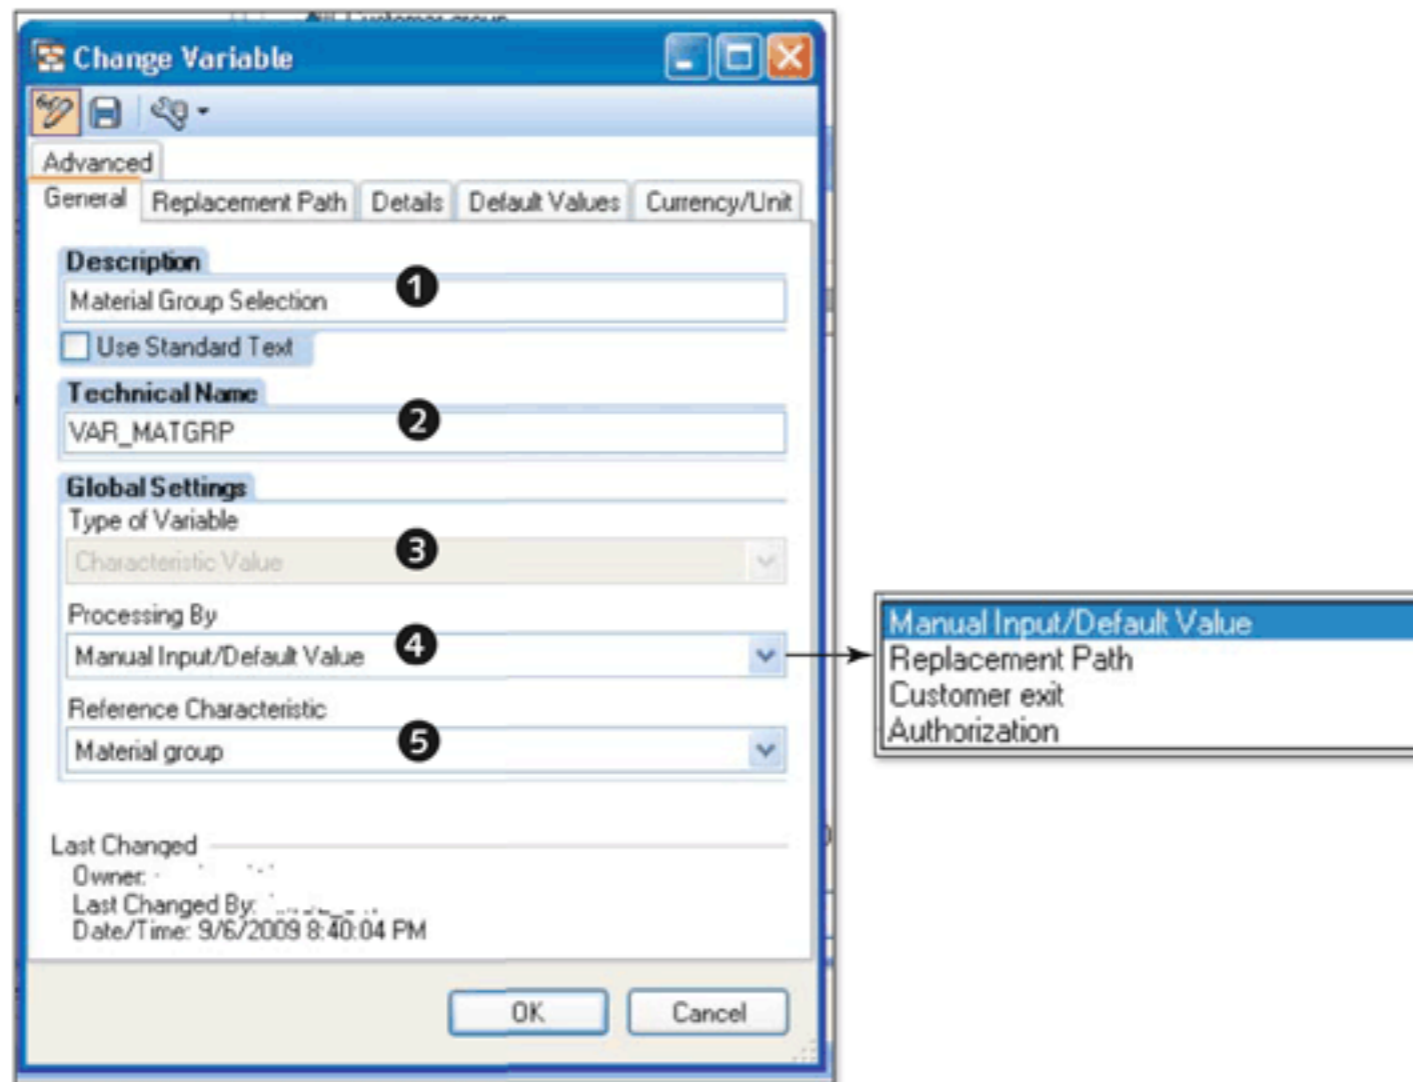

Figure 9.26 Maintain the General Tab for VAR_MATGRP
Maintain the DESCRIPTION and TECHNICAL NAME of the variable as shown in ❶ and ❷ of Figure 9.26.
The TYPE OF VARIABLE (❸ of Figure 9.26) is already determined by the editor based on the element from which the Variable Editor is called. In this case, the editor is called from a characteristic, so the variable type is prepopulated as a characteristic value.